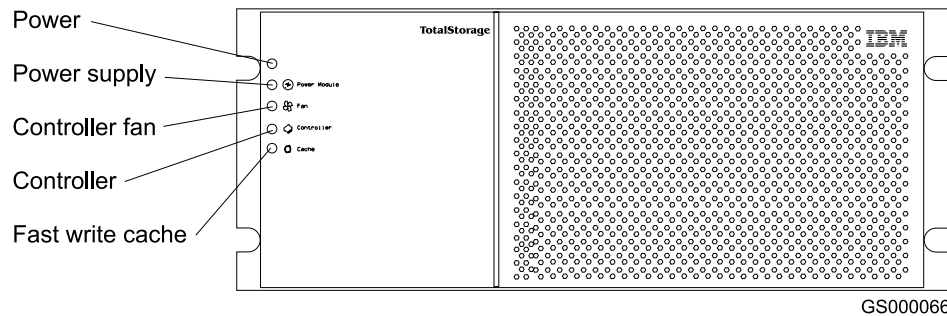

Figure 35. Indicator lights on the FAST900 Storage Server bezel
5. Using Figure 35 as a guide, check the controller indicator lights.